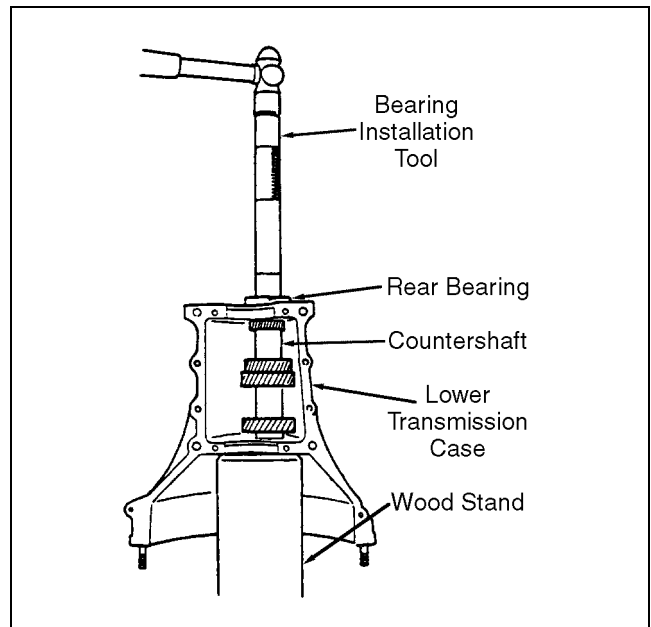

**Figure 4H-31. Main Shaft Assembly ó Steps 8 and 9**
8. Install reverse gear bearing, reverse gear and reverse drive hub/sleeve. For proper direction, make sure to install hub so that the side whose inside boss is smaller in diameter and longer is at the transmission case rear side (see Figure 4H-31).